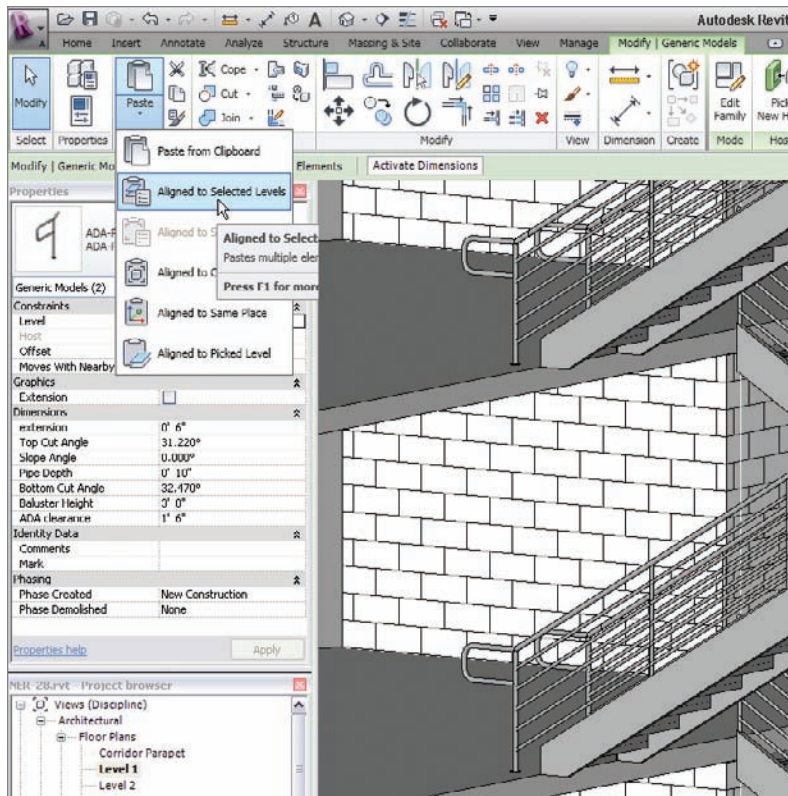

FIGURE 10.22 The copied families
8. Choose Paste > Aligned To Selected Levels, as shown near the top left of Figure 10.22.
9. Pick Levels 2, 3, and 4, and then click OK. Does your staircase look like Figure 10.22?